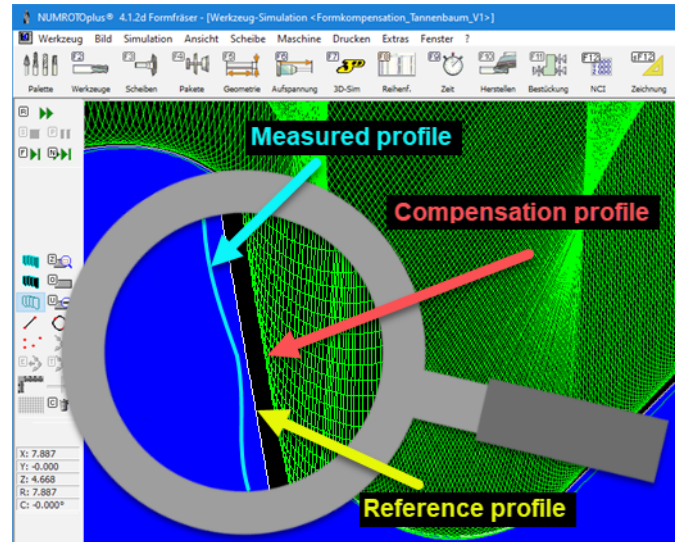

Figure 3: Nominal profile–measured profile–compensation profile.
- Thanks to the best possible filtering of the measured profile a very steady course of compensation is achieved. This filtering is clearly visible in Figure 3: Two clear "outliers" can be seen in the measured profile. These are filtered out in the compensation profile.